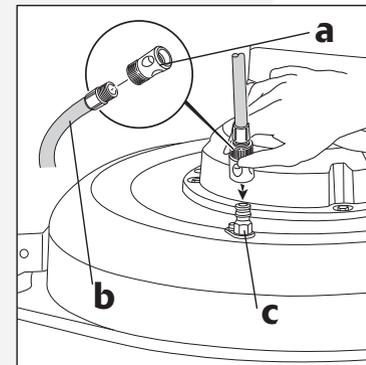

Fig. 22
2. Attach the quick disconnect (a) to the garden hose (b) and then connect it to the washout port (c) on the mower deck. (Fig. 22)